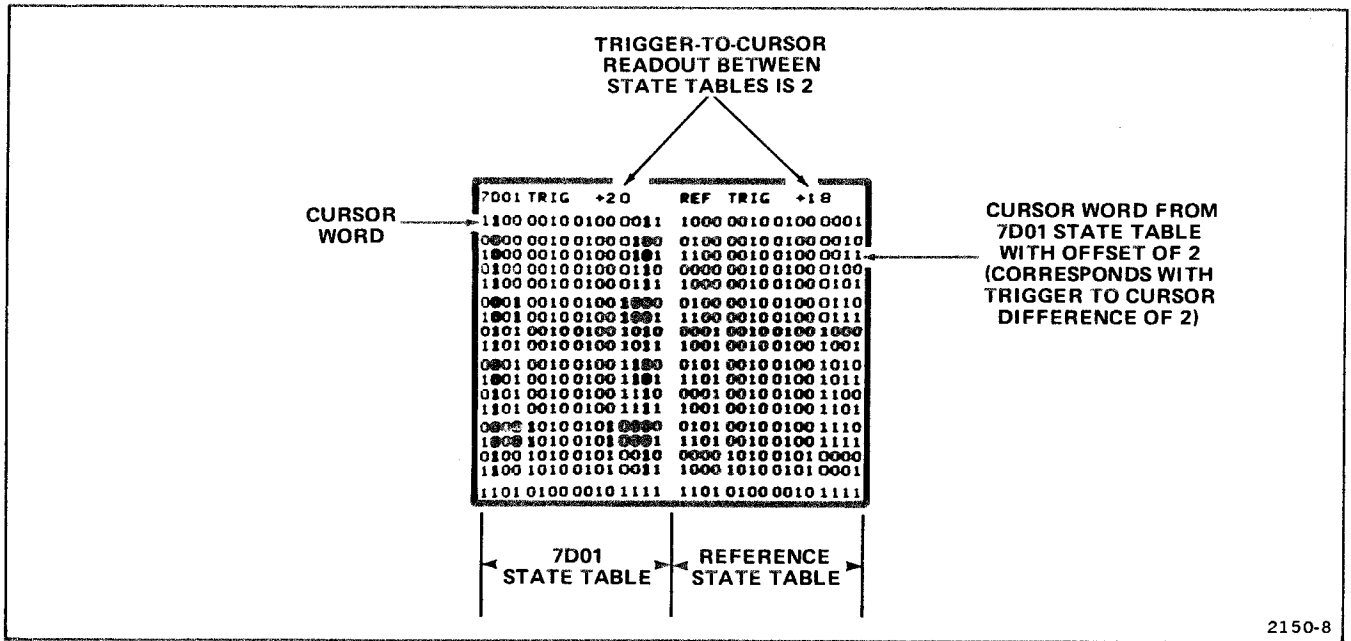

Figure 2-5. Typical state-table display showing offset between the 7D01 and reference state tables.
**REF TABLE HELD.** The HELD mode is functional only when operating in the 7D01 ⊕ INTENS REF mode. The reference table cursor location remains at one setting, allowing the cursor location in the 7D01 state table to be moved independently (offset). Refer to Figure 2-5.
**REF TABLE FOLLOWS WITH/OFFSET.** The FOLLOWS WITH/OFFSET mode is functional only when operating in the 7D01 ⊕ INTENS REF mode. The difference in cursor location (offset) between the 7D01 state table and the reference state table, is maintained at the time the FOLLOWS W/OFFSET push button is pressed (see Figure 2-5). The offset between the 7D01 and reference state tables remains constant as the 7D01 cursor is moved. To delete the trigger-to-cursor offset, select REF TABLE FOLLOWS 7D01.
if the trigger-to-cursor readout of the state table displays is offset, the 7D01 state table will be transferred to the reference state table with that offset (intensified bits may appear). The tables are equal but offset by the trigger-to-cursor readout (see Figure 2-5). To make the tables equal, either set the 7D01 cursor position controls so that the trigger-to-cursor readout is the same for both state tables or press the REF TABLE FOLLOWS 7D01 push button.